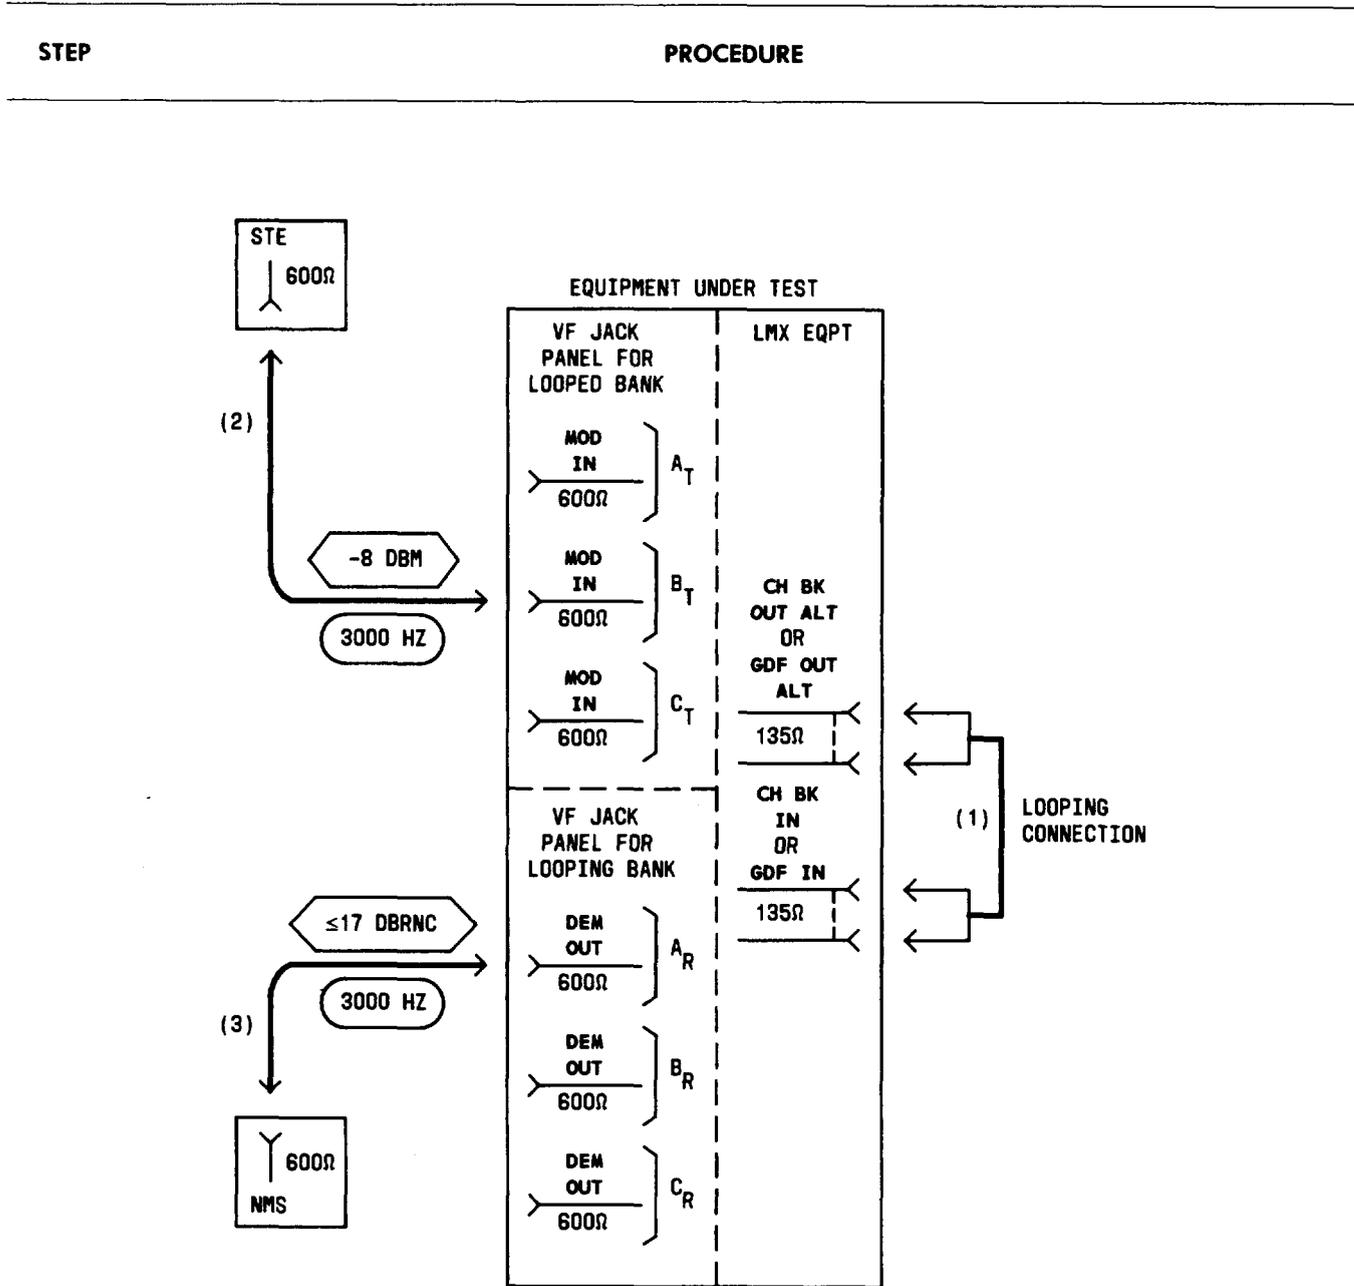

Fig. 23—Patching Diagram—Crosstalk Test—Unequal-Level Looping—Lower Adjacent Channel (3000 Hz)
11	Connect the STE to the MOD IN jack for Test A in looped -bank Channel B T (Table J and patch (2), Fig. 23).
12	Connect the NMS to the DEM OUT jack for Test A in looping -bank Channel A R (Table J and patch (3), Fig. 23).
16	Remove patches (2) and (3), Fig. 23.